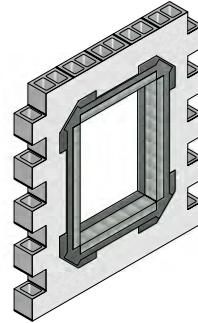

Figure 11
10. Place MasterSeal AWB 971 FIB into wet MasterSeal AWB 660/MasterSeal AWB 665/MasterSeal AWB 660 I so that the crease runs along the outside edge of the sill and MasterSeal AWB 971 FIB extends to the full depth of the rough opening. (See Figure 11).